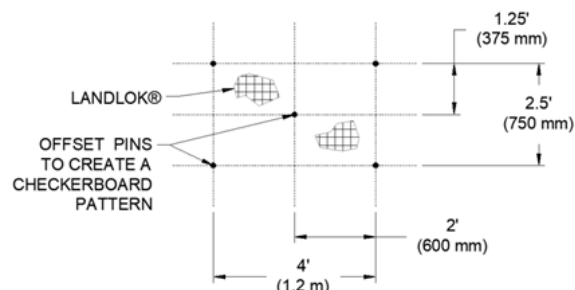
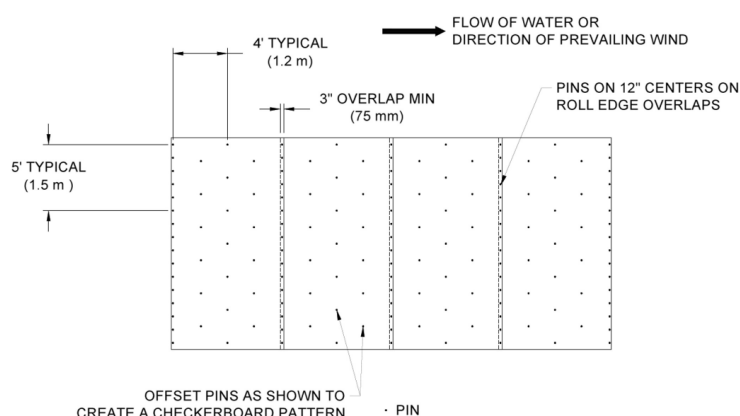

Figure 12: Example Pin Pattern
Figure 13: Example Edge Overlap Pattern
6. Place the next TRM panel by laying the **PROPEX** Landlok TRM roll so that the roll end points towards the COS trench (Figure 9), with a 3 in (75 mm) overlap created at adjacent panel edge locations. Ensure that adjacent panel edges maintain a minimum 3 in (75 mm) overlap during **PROPEX** Landlok TRM laydown. (Figure 13)
10. Secure TRM panels in place using pins across the channel surface according to the project's engineered design. Pin placement should reflect a staggered checkerboard pattern across the channel surface for best results (Figure 12 and Figure 13).
- Roll edges shall be overlapped a minimum of 3 in (75 mm) and a maximum of 6 in (150 mm) with pins placed on 12 in (300 mm) centers (Figure 13).
13. Continue to work down the length of the channel by repeating steps 6 through 9 overlapping each adjacent TRM panel by 3 in (75 mm) (Figure 13). The last TRM panel should terminate on the Terminal Channel (TC) trench with pins on 12 in (300 mm) centers